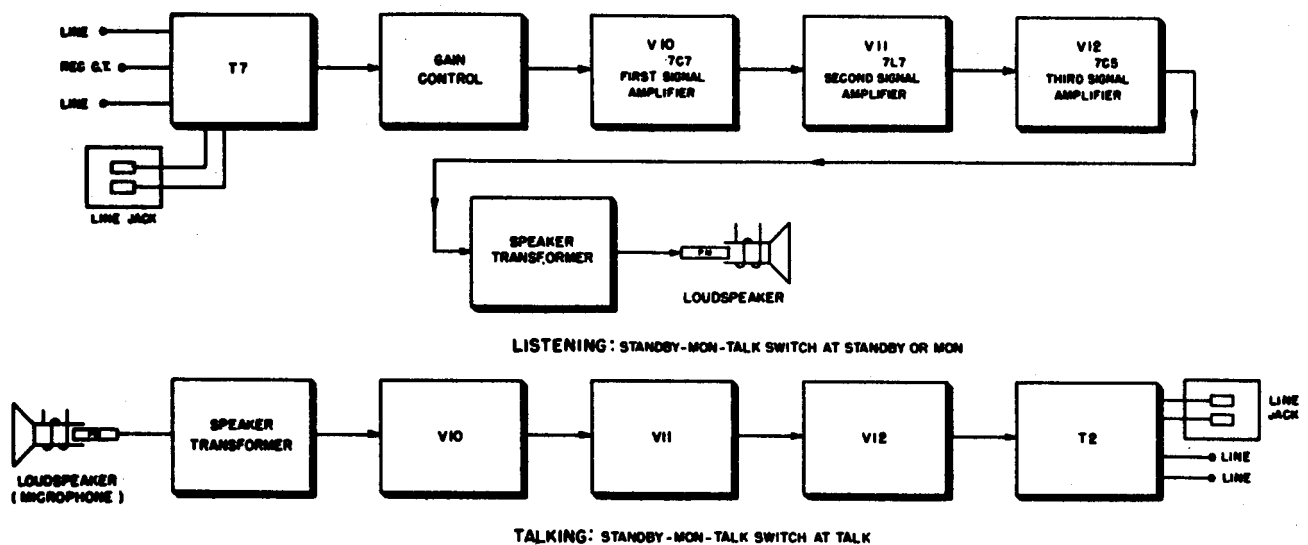

Figure 33. Talk-back circuit, block diagram.
j. Talk-Back Circuit (fig. 33). The talk-back circuit is included in all models of the transceiver except Facsimile Transceiver TT-1/TXC-1, and is energized when the selector switch is at STANDBY. For normal reception of voice over this circuit, the STANDBY-MON-TALK switch is at MON (if the motor is to be in operation) or at STANDBY (if the motor is not to be in operation). In either of these positions, the signal from the